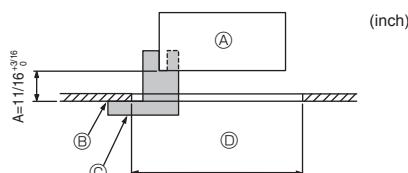

Fig. 6-2
①	Grille	1	950 × 950 (mm), 37-13/32 × 37-13/32 (inch)
②	Gauge	1	Divided into 4 parts
③	Screw (4 × 16)	1	For PLFY-EP-NEMU-E(1)
④	3D i-see Sensor corner panel	1	For PLFY-EP-NEMU-E(1)
6.2. Preparing to attach the grille (Fig. 6-2)
- With the gauge ② supplied with this kit, adjust and check the positioning of the unit relative to the ceiling. If the unit is not properly positioned relative to the ceiling, it may allow air leaks or cause condensation to collect.